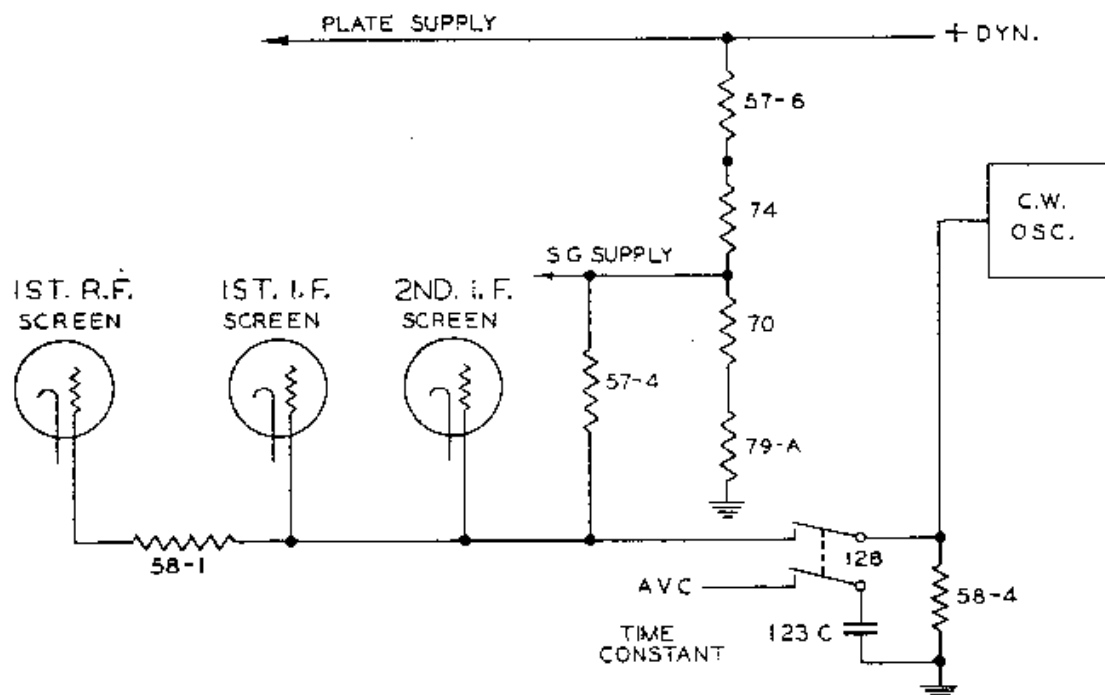

Figure 4-2 C-W Oscillator Switching, Simplified Diagram
- (1) The c-w oscillator employs the triode section of tube JAN-6F7 (second i-f amplifier tube) in a tuned grid plate feedback circuit. The adjustable iron core in the grid inductance 121 is employed for rough frequency alignment. A small panel-operated beat frequency control permits fine adjustment of the beat frequency within a range of approximately 4,000 cycles each side of zero. The effects of ambient temperature variations are minimized by the use of a temperature compensated tuned circuit. The c-w oscillator operates at an extremely low level, minimizing harmonics and stray oscillator pickup. The output is capacitively coupled to the plated circuit of the second amplifier tube by the coupling lead connected to the oscillator grid. Amplification by the third i-f amplifier stage, whose gain is not controlled either by manual or a-v-c, provides sufficient output from the c-w oscillator to the diode detector. This value of oscillator output is somewhat below the level at which the a-v-c operates, thus permitting the use of automatic volume control even for c-w reception.
- (2) The C.W. OSC. switch 128 in the ON position supplies the oscillator plate voltage and increases the a-v-c time constant by connecting the additional capacitor 123-C. Switch 128 supplies the oscillator plate voltage by connection to the screen grids of the first and second i-f and first r-f tubes. The same switching connects the loading resistor 58-4. This drops the screen voltage to the first and second i-f and first r-f tubes to a value that reduces the sensitivity sufficiently to keep the overall set noise essentially constant. This arrangement for supplying the c-w oscillator has added advantages which are not obvious. For sufficient oscillator excitation to handle high detector levels, encountered with a-v-c delay operation and strong signal inputs (while still keeping the no-signal c-w excitation below the a-v-c level,) the c-w oscillator Output should increase as a strong signal input raises the a-v-c bias. This circuit arrangement, Figure 4-2, accomplishes this result, since with switch 129 in the a-v-c position, resistors 57-6, 74, 70, and 79-A form a fixed bleeder supplying the screen grid voltage to r-f, first detector and i-f tubes. A strong input signal building up the a-v-c bias causes a considerable decrease in screen current and hence an increase in the screen supply voltage. This increases the voltage supplied to the c-w oscillator, and hence the excitation increases in proportion to signal level at the detector.